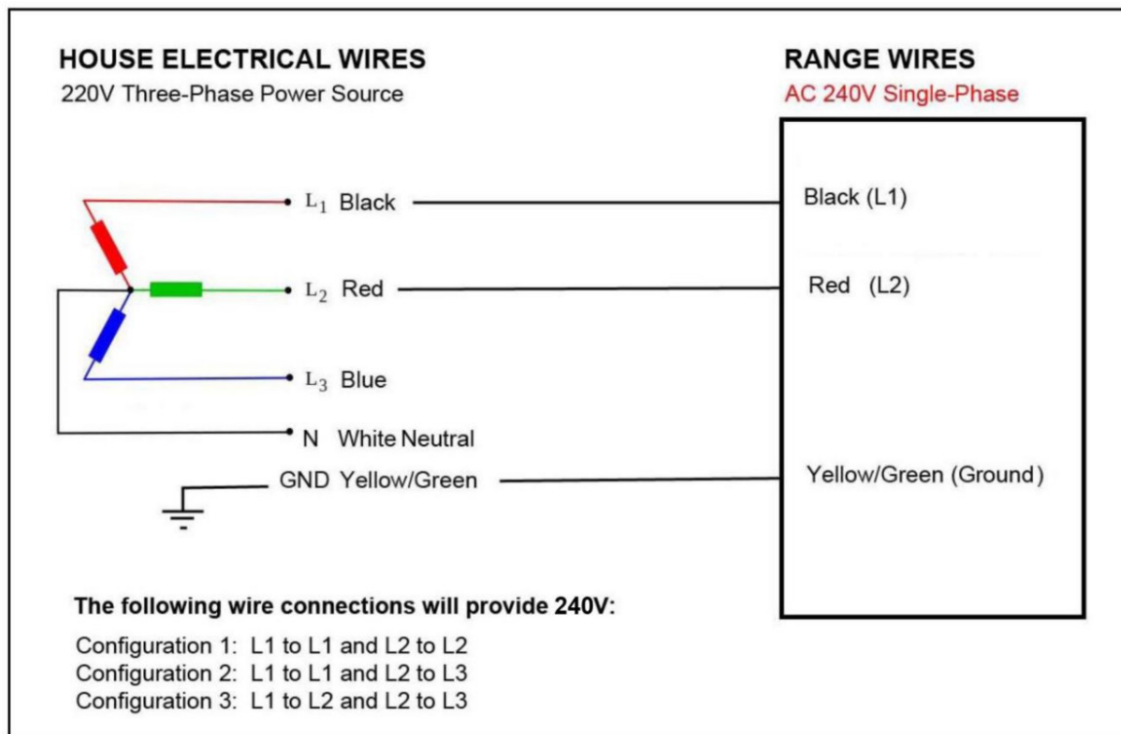

Figure 8
2. Follow the diagram below to know how to connect the freestanding range wires to the electrical main wires of the home. (See Figure 8)